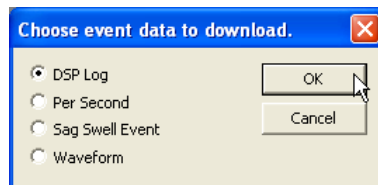

Figure 5.9: Download Event Screen - PSCSV 933
For each data type, a window will appear that allows you to select the type of data for saving and viewing. These are shown in Figure 5.9.
1. Begin by clicking the Download Event button to open the “Choose Event ...” type data window – see Figure 5.9. Select the “DSP Log” radio button, and click OK.